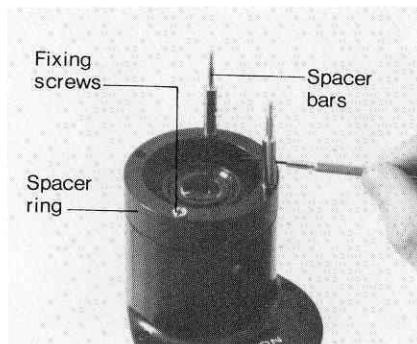
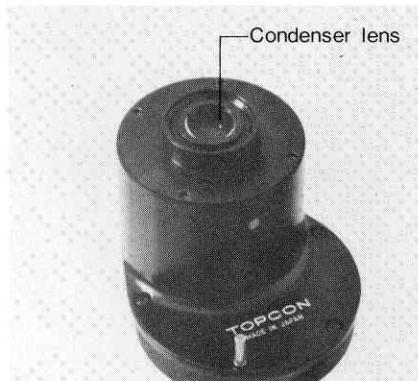

Fig. 60
Fig. 61
- (c) Unscrew four spacer bars and detach. (See Fig. 60)
- (d) Unscrew four spacer ring fixing screws and then detach the spacer ring. (See Fig. 60 and Fig. 61)